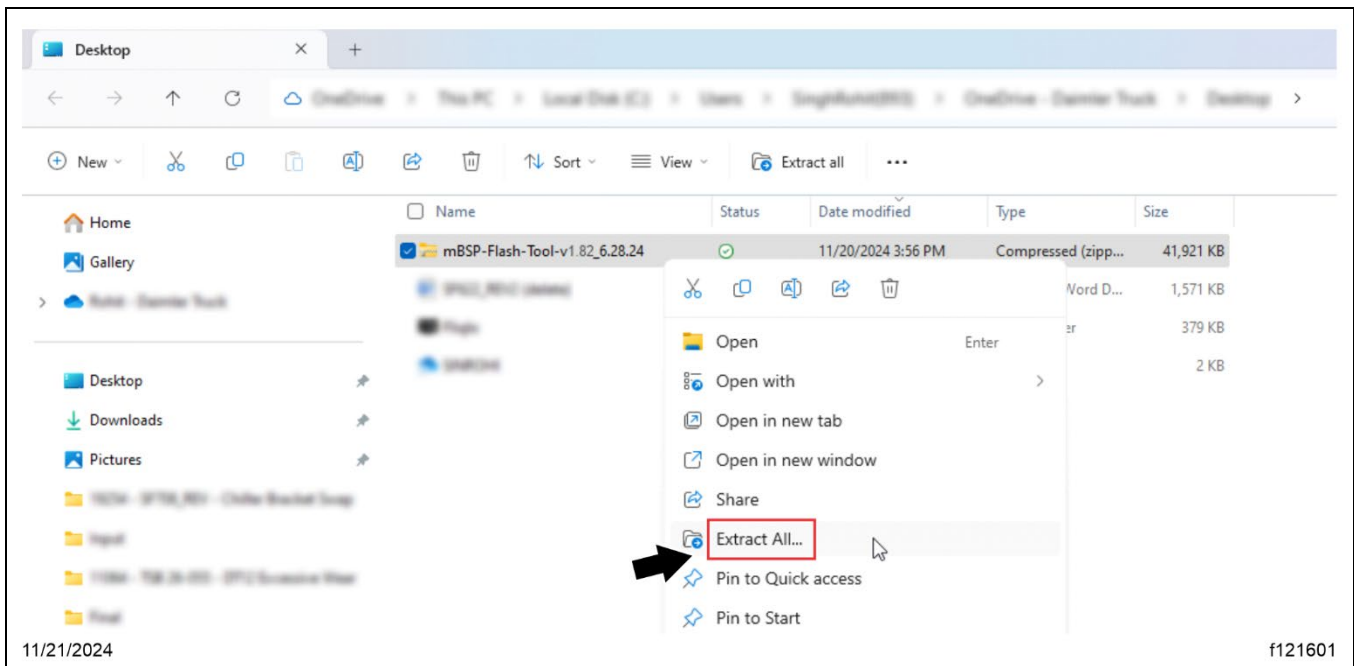

Fig. 25, Extracting the Downloaded Zip File
6.1. Right-click on the 'mBSP-Flash-Tool-v1.82.zip' folder and select 'Extract All...' See Fig. 25.